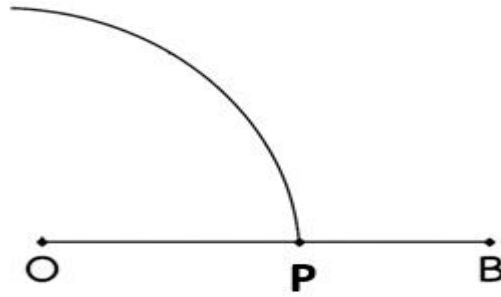

Fig. 1.20: Construction of Angle (Step 2)
Step 2: Take the compass and open it up to a convenient radius. Place its pointer at O and with the pencil head make an arc which meets the line OB at say, P (Fig. 1.20).